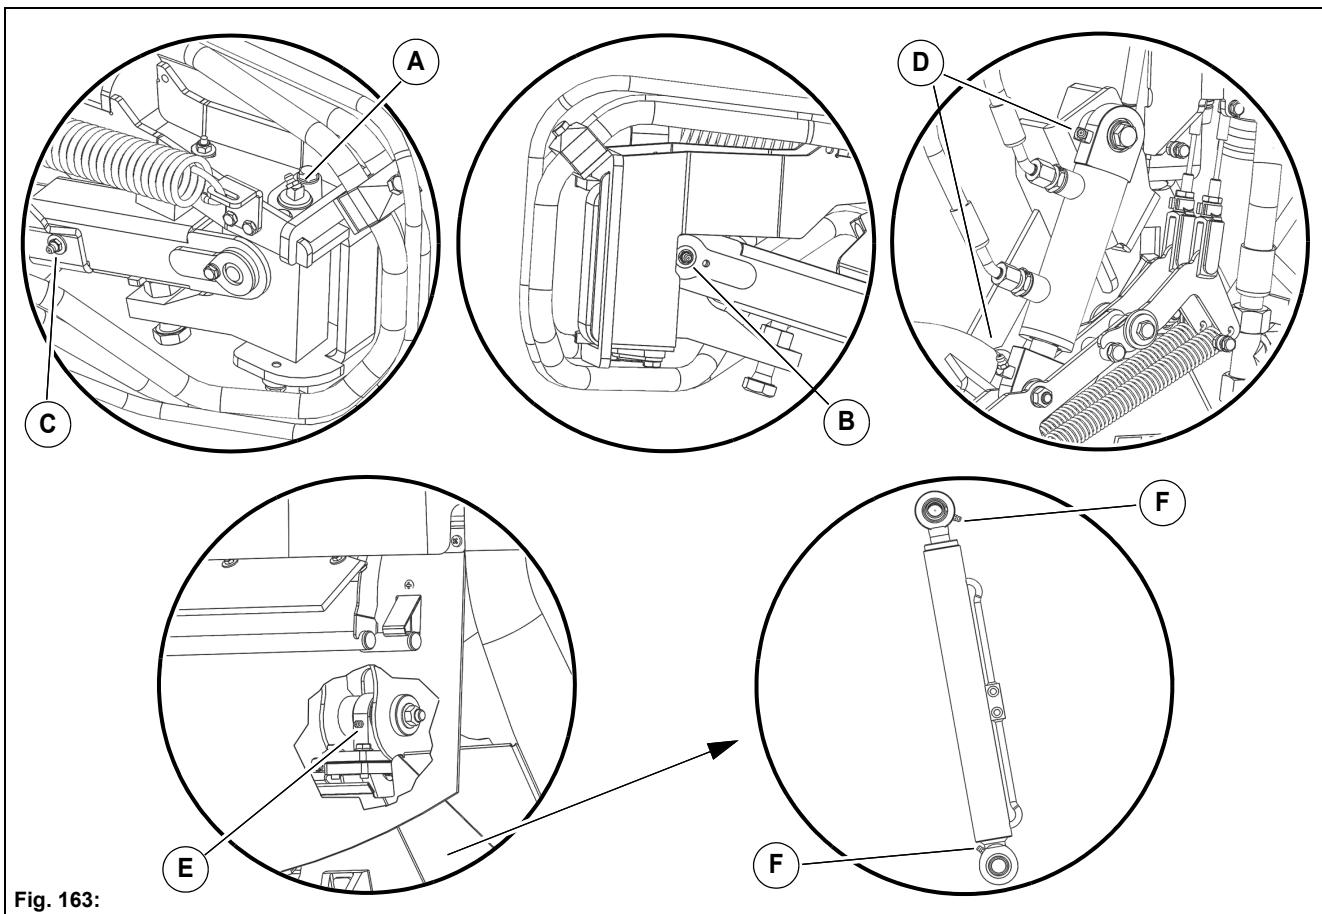

Fig. 163:
- Horizontal brush suspension left/right (2 pcs.) **Fig. 163-A**
- Vertical brush suspension left/right (2 pcs.) **Fig. 163-B**
- Brush deflection left/right (2 pcs.) **Fig. 163-C**
- Brush swivelling device (2 pcs.) **Fig. 163-D**
- Dirt hopper lifting cylinder left/right (4 pcs.) **Fig. 163-F**